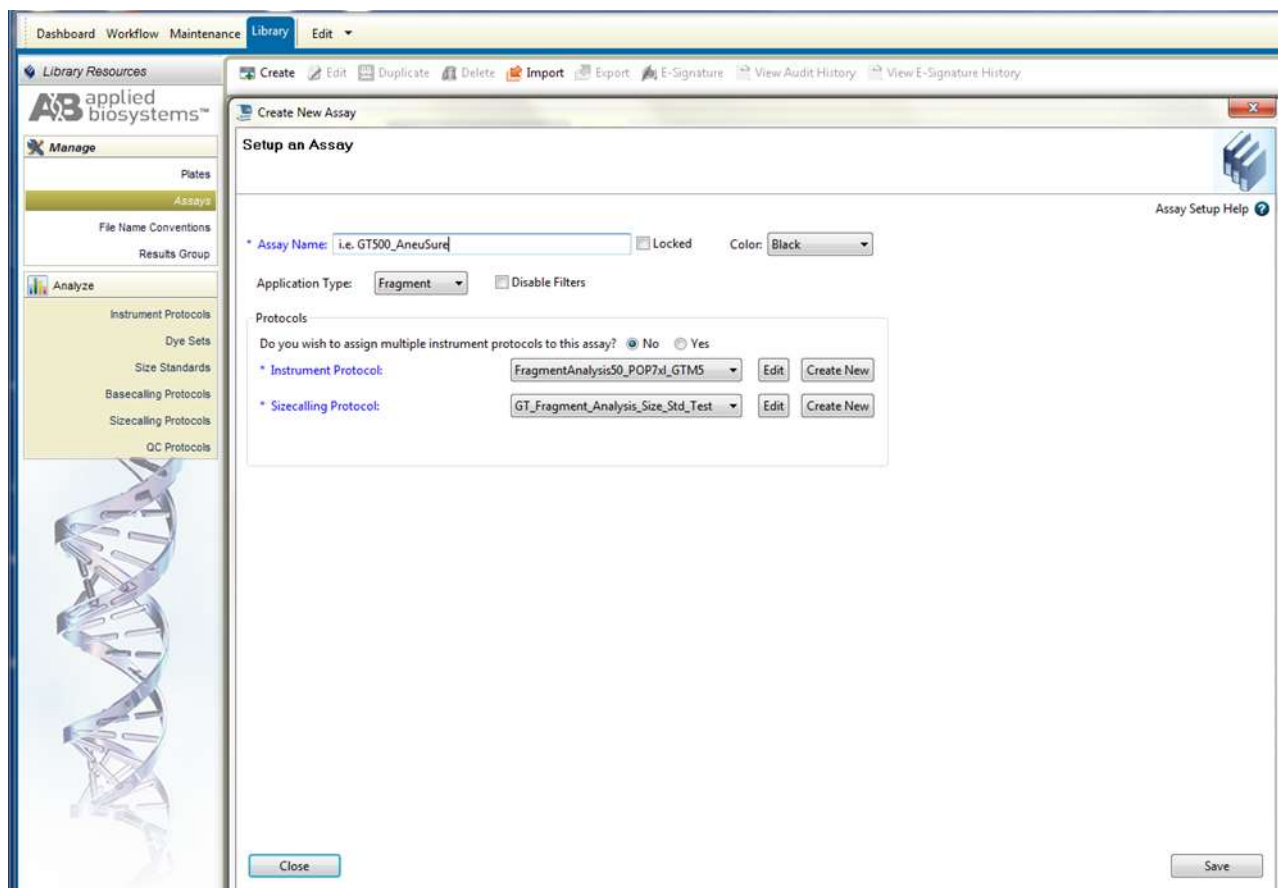

Figure 8. Screenshot for the “Create New Assay” window on Applied Biosystems 3500 Data Collection software
- c) Select “Create” (Figure 8)
- d) In the *Create New Assay* window, as shown in Figure 8, choose the *Instrument Protocol* created in Step 3.1.1 and the *QC Protocol* created in Step 3.1.3